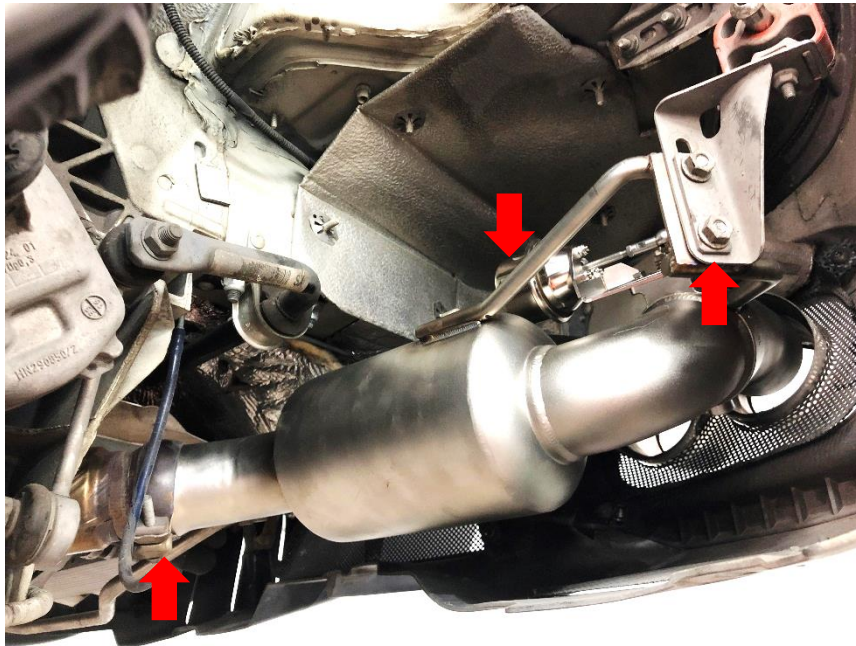

Fig. 14
5. After the muffler is installed, the bushes are fixed right position without locking. (Fig 14~15)